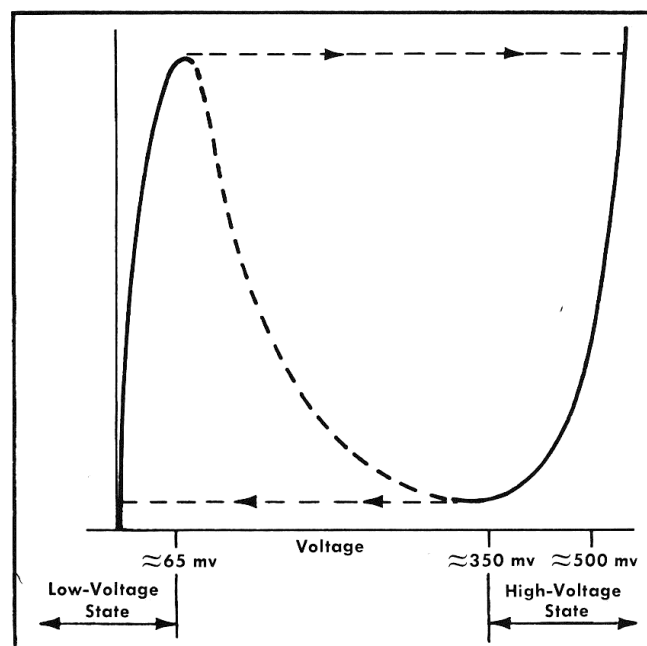

Fig. 3-2. Tunnel diode characteristics.
In operation, V24A and V24B form a push-pull amplifier which drives a push-pull input, single-ended output amplifier consisting of Q34 and Q44. Tunnel diode D45 is biased at its low-voltage state (see Fig. 3-2 for trigger tunnel-diode curve) by current flow through the voltage divider consisting of R44, R45, R47, and R48. When the desired slope of the triggering signal selected arrives at the grids of V24, V24B and Q44 are biased into conduction. The conduction of Q44 increases the current flow through D45, and D45 switches to its high-voltage state. The sudden voltage change across D45 as it switches to its high-voltage state produces a uniform fast-rising trigger pulse which is used to trigger the Main Time Base (B) sweep generator.